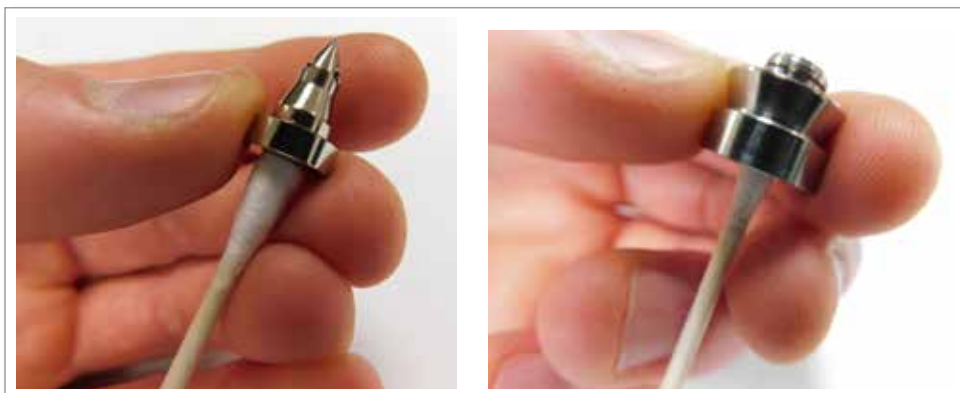

Figure 5-88 Clean torpedo and transfer seal
4. If necessary, clean the interior surfaces and screw threads with a cotton swab. See Figure 5-88.